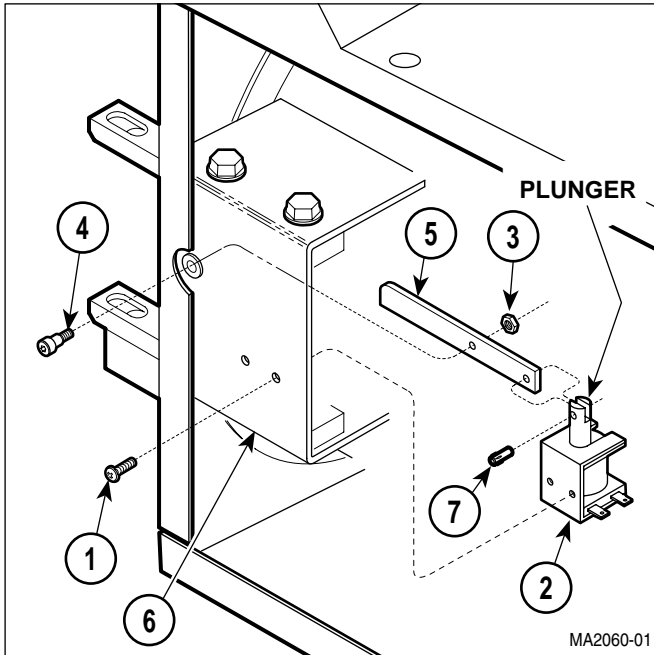

Figure 4-17. Pulse Solenoid Removal / Installation
- (1) Remove control PC board (Refer to para 4.13).
- (2) Remove two screws (1, Figure 4-17) from pulse solenoid (2).
- (3) Remove nut (3) and shoulder screw (4), and then remove pulse solenoid (2) and latch lever (5) as an assembly from pressure vessel bracket (6).
- (4) Using 3/32 in. punch, remove roll pin (7) and latch lever (5) from plunger of pulse solenoid (2) (Refer to Table 1-2 for special tool).